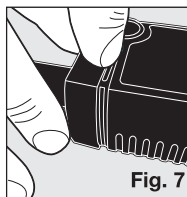

Fig. 7
2. Once the pump is out of the fountain, with your thumb and forefinger, gently squeeze on either side of the Faceplate, and pull it off. It may be necessary to insert a fingernail into the seam of the Faceplate to pry it off (**Fig. 7 & 8**).